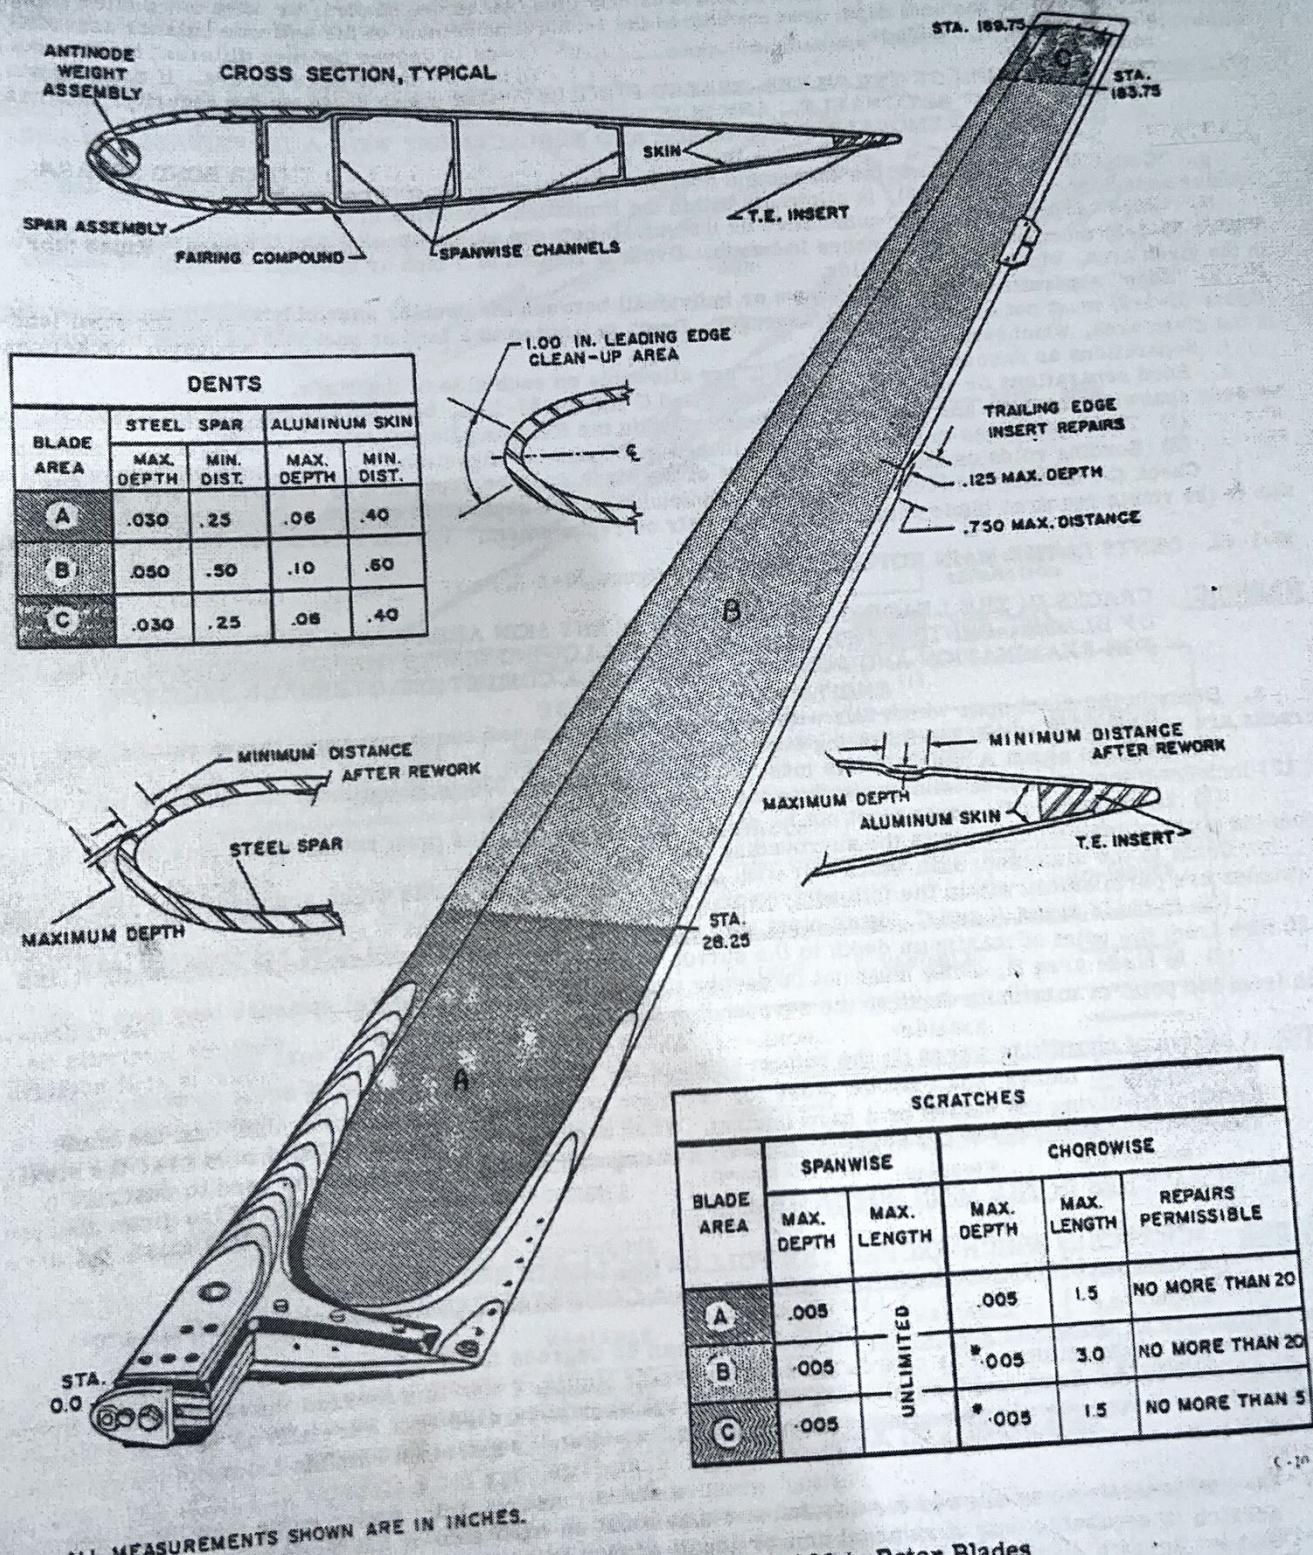

Figure 53-1-2. Reparable Areas of Main Rotor Blades
53-1-40. MINOR REPAIR AND PARTS REPLACEMENT OF MAIN ROTOR BLADES. (See figures 53-1-2 and
k. Bond separations or voids in blade areas B and C (figure 53-1-2), between the trailing edge skin or between spanwise channels and skin are permissible within the following limitations:
(1) The separations must not exceed 2 inches in a spanwise direction.
(2) Bonding voids on either top or bottom of the blade must be separated by at least 20 inches.
53-1-42. DENTS IN THE MAIN ROTOR BLADE. (See figure 53-1-2.)
- (1) Scratches in blade area A (figure 53-1-2) must not be deeper than 0.005 inch nor exceed 1.5 inches in length. A maximum of 20 chordwise repairs is permissible in blade area A.
(2) Scratches in blade area B must not be deeper than 0.005 inch nor exceed 3.0 inches in length. A maximum of 20 chordwise repairs is permissible in blade area B.
(3) Scratches in blade area C must not be deeper than 0.005 inch nor exceed 1.5 inches in length. A maximum of 5 chordwise repairs is permissible in blade area C.
c. Nicks in the trailing edge insert are permissible to a depth of 0.125 inch along the entire length of blade. Nicks in the trailing edge insert must be faired out at a ratio of six times the depth of the nick. (See figure 53-1-2). For example: Spanwise dimension of faired area for a nick 0.125 inch must be 0.75 inch.
- a. Removal of erosion, rust, and scratches on the leading edge spar within a 1 inch spanwise strip (figure 53-1-2), centered along the leading edge is permissible within the following limits: